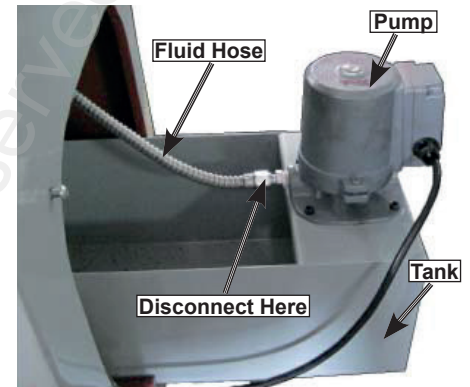

Fig. 82 Cutting fluid pump and tank
2. Remove the vented cover and slide the tank out, as shown in figure 82.
5. Remove the vented cover and slide the tank half way out of the base, as shown in figure 82. If necessary, disconnect the fluid hose from the pump, where shown in figure 82.